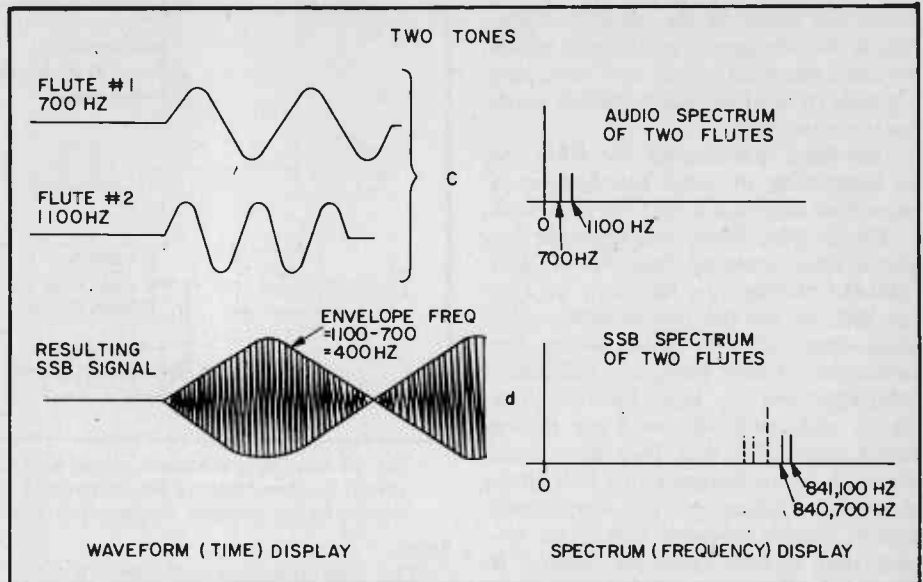

Fig. 11—With two modulating audio signals we have two sidebands generated.
**Hardware for SSB.** Since SSB is merely a very sophisticated version of ordinary AM, you might expect that you could generate a SSB signal by some kind of change to the basic AM system. In fact, a three-step change to that figure will give an understanding of how SSB is generated. In the first step, (Fig. 11), we have added another carrier power amplifier, an inverter, and an adder (the new parts are shown in bold